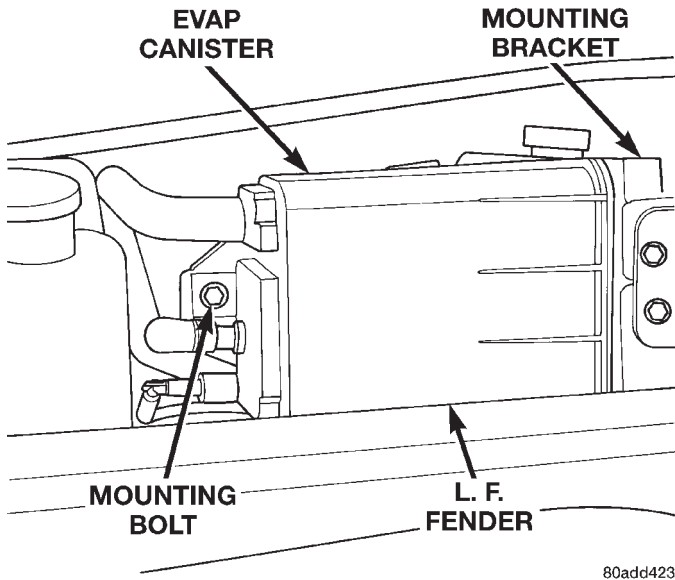

Fig. 8 EVAP Canister Removal/Installation
- (1) Disconnect vacuum lines/hoses at EVAP canister. Note location of lines/hoses before removal.
- (2) Remove canister mounting bolt (Fig. 8).
- (3) Disengage canister from vehicle by slipping 2 canister dowel pins from rubber mounting bracket bushings.